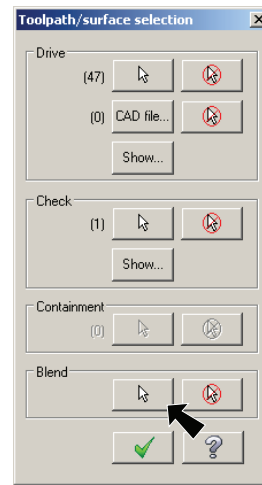

Fig. 26
Step 8. Click **Blend Select** button, **Fig. 26**.
Step 12. Click the OK button  in the Toolpath/surface selection dialog box, **Fig. 26**.